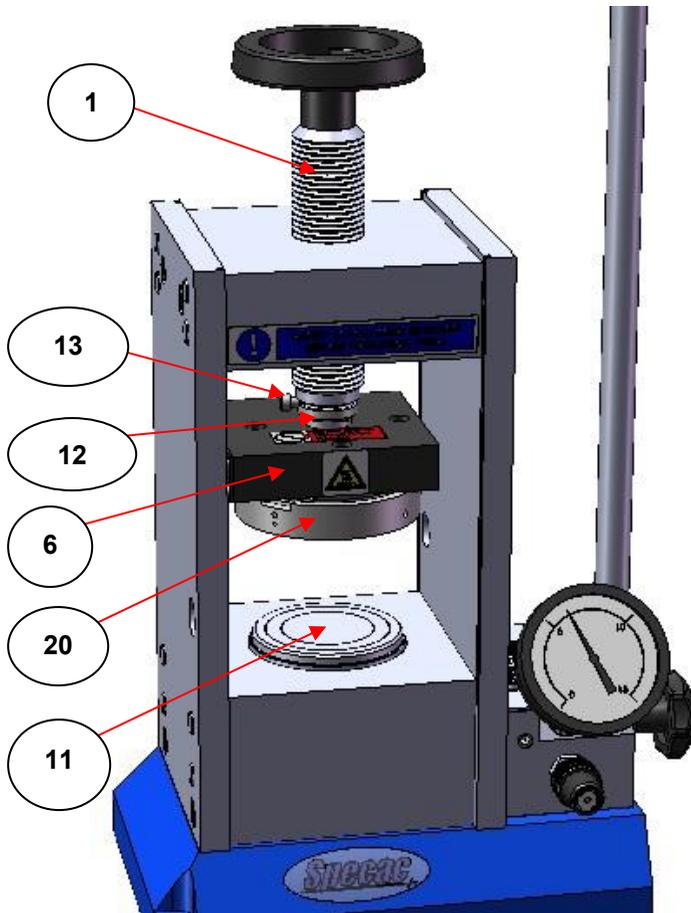

Fig 7. Installation of Top Heated Platen Assembly into the Atlas™ Manual Hydraulic Press
Insert the circular bolster connection (12) of the top heated platen assembly (1) into the hollow at the base of the press lead screw (10) as far as possible and tighten up the locking screw (13) by turning it clockwise using the 4mm Allen key supplied. This applies pressure to the “jaws” of the top bolster connection (12) to push them apart and holds the top heated platen assembly (1) tight in the lead screw (10) for raising and lowering the top heated platen pressing surface (20) with rotation of the lead screw (10). (See Fig 7. – Note front and rear safety guards of the press have been removed from image for clarity.)